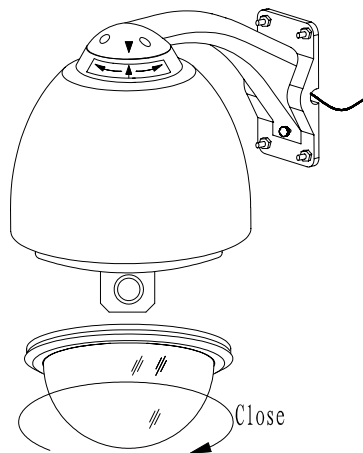

Figure 14
11) Rotate the vitreous cover clockwise and mount it ( Figure 14 )